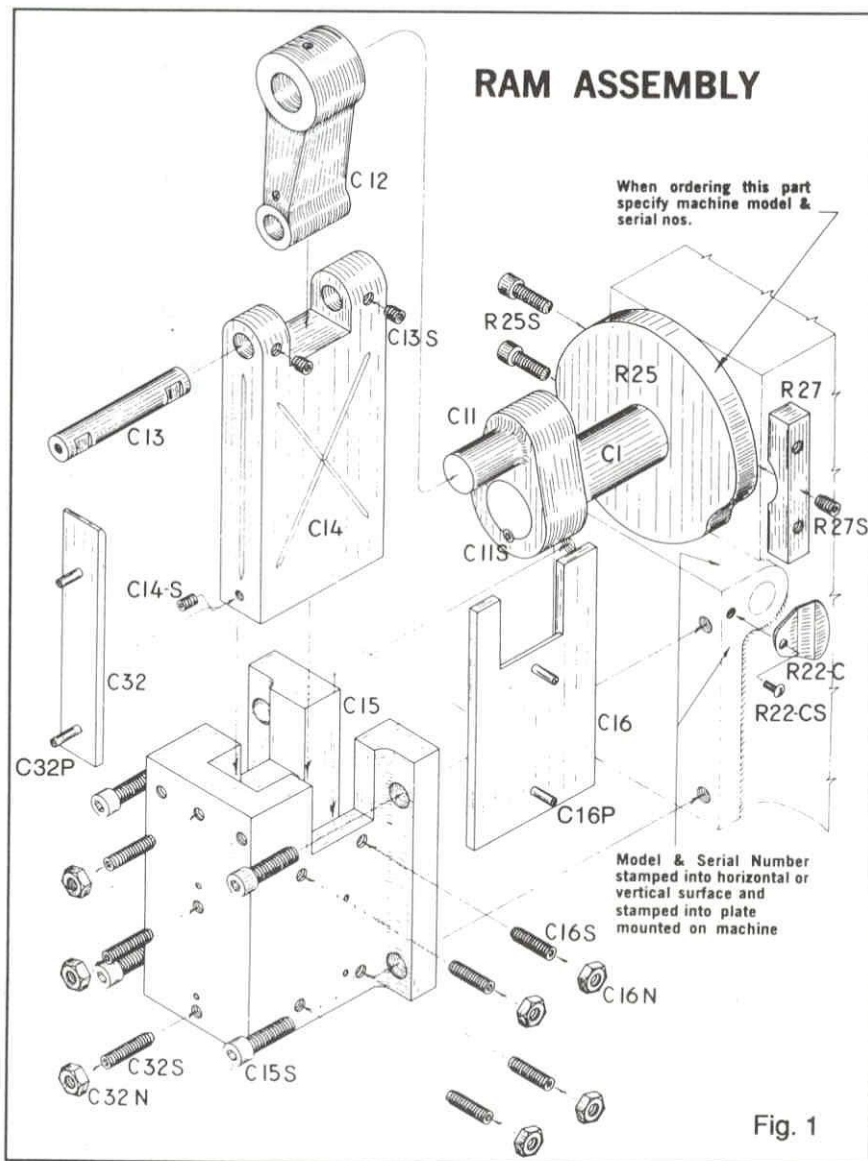

Fig. 1
All orders, whether for Setting Tools or Machine Parts, must include Machine Model, Serial Number and Eyelet Identification Number. The Machine Model and Serial Number are found on the Identification Plate attached to the apron and stamped into the main frame casting as shown in Fig. 1, Pg. 2. The Eyelet Number is stamped into the raceway rail as shown in Fig. 2, Pg. 3.
2. Remove Ram and Link Shaft (C13) and lower Ram (C14) to clear Raceway Cam (R25). (Ref. Pg. 2, Fig. 1.)